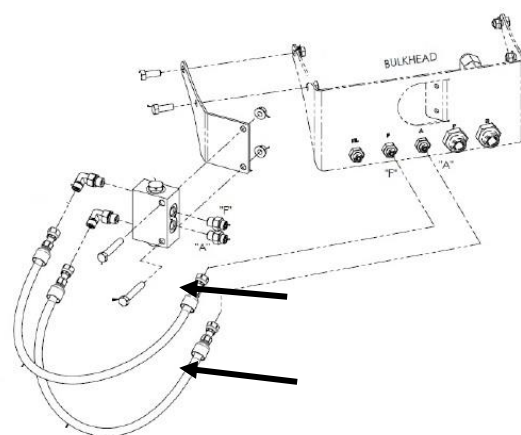

Figure 262
2. The line lock is a valve that is bolted on to the hydraulic manifold and provides the check valve needed on those combines. Figure 262.